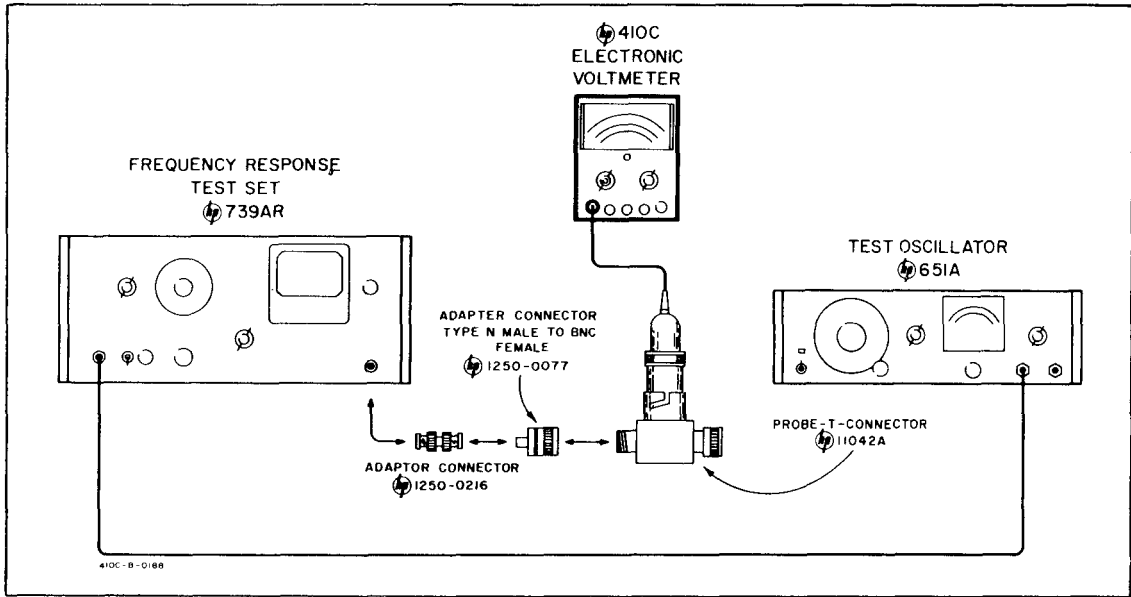

Figure 5-4. Low Frequency Response Test
d. Remove probe tip from Model 11036A and connect the ac probe as shown in Figure 5-4.
b. Connect the Model 410C as shown in Figure 5-4. Set Model 410C FUNCTION SELECTOR to ACV; RANGE to 1.5 V.
f. Vary test oscillator frequency from 20 cps to 10 Mc. Model 410C should read between 1.25 and 1.55 v at all frequencies. When checking the frequency response from 20 cps to 50 cps, disconnect the 11042A from the test set up in figure 5-4. Replace the probe tip on the Model 11036A and connect directly through a 50-ohm load to the output of the Frequency Response Test Set. Connect the output of the Test Oscillator directly to the input of the Frequency Response Test Set. Observe step g throughout the entire operation.